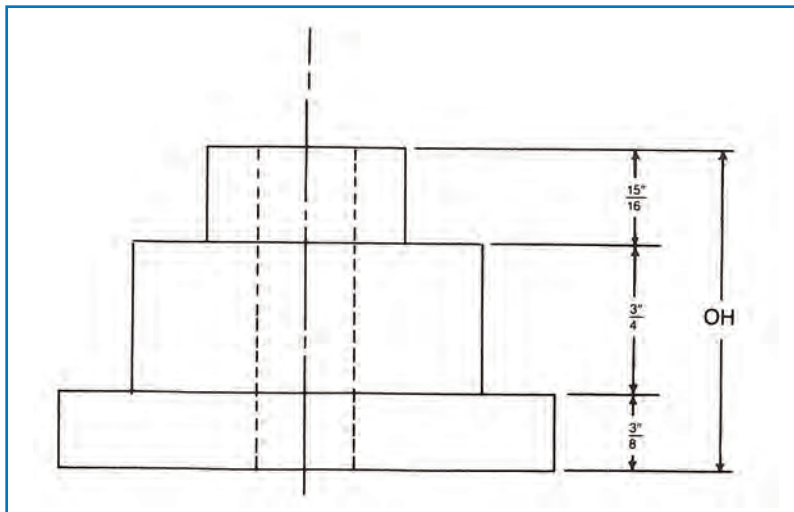

Fig. 8. Flange
The flange in **Fig. 8** has three fractional dimensions of  $3/8''$ ,  $3/4''$ , and  $15/16''$ . To compute the *overall height* (OH) of the flange, you have to add these dimensions. However, this cannot be done until all dimensions have been converted to fractions having one least common denominator.
Now that you have converted all the dimensions of the flange in Fig. 8 to fractions having one common denominator, you can add the fractions to determine the overall height of the piece.
The improper fraction 33/16" must be converted to a mixed number by dividing 33 by 16. The result of 2-1/16" is the overall height of the flange in Fig. 8.